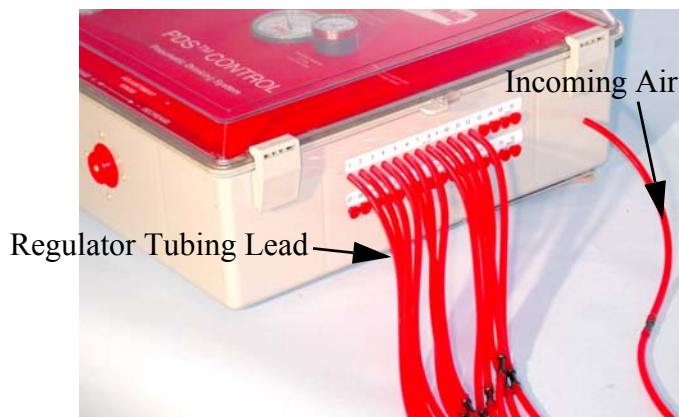

Figure 9. Regulator Tube Leads
Route the regulator tubing so any condensation in the air lines will not run into the control. Allow slack in the regulator tube leads so that they can be pinched for maintenance and diagnostic purposes, see figure 9.
**BEFORE** connecting the compressed air supply to the control, the compressed air supplied to the PDS™ control, must be regulated between 6 and 12 psi [41.37 and 68.95 kPa]. Failure to do this will result in damage to the gauges and possibly other components. After the air supplied from the compressor is confirmed to be between 6 and 12 psi [41.37 and 68.95 kPa], connect the air supply to the incoming pressure line on the PDS control, see figure 9.